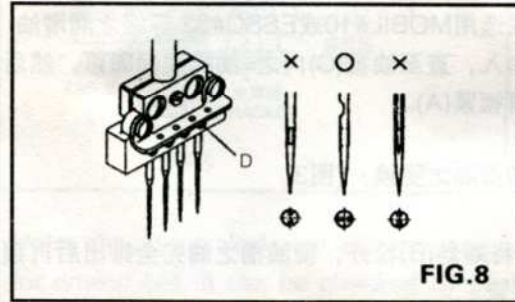

FIG. 8
1. 旋松螺丝(D)并取下针。(图8)
1. Loosen Screw (D) and take out the used needle. (Fig.8)